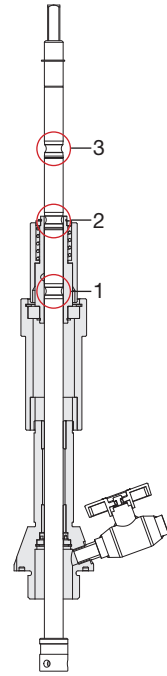

Figure 5.
- Choose the correct locking groove corresponding to the size of the hot tapping valve, there are three (3) grooves (figure 5). Lock the shaft on the chosen groove.